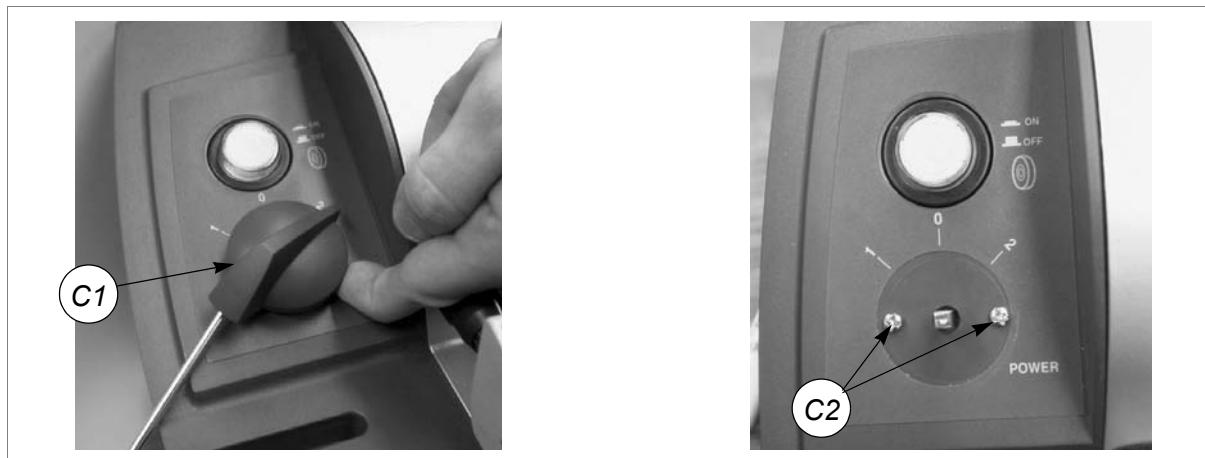

Fig. 37
- 3) Pull out the commutator (C) knob (C1) and loosen the 2 fixing screws (C2) (fig.37).
- 8) Push into its seat and fix with the 2 screws (C2) (fig.37).
- 9) Replace the bottom safety plate, fix with the 7 screws (W) and 2 feet.
- 6) Pull the commutator knob (C1) off and loosen the 2 fixing screws (C2) (fig.37, pag.27).
- 23) Push the commutator upwards to replace it in its ideal seat. Fix with the 2 screws (C2). Fit the knob (C1) (fig. 37, page 27).
- 24) Replace the bottom plate and fix with the 7 screws (W) and 2 feet. Fit the swarf tray.